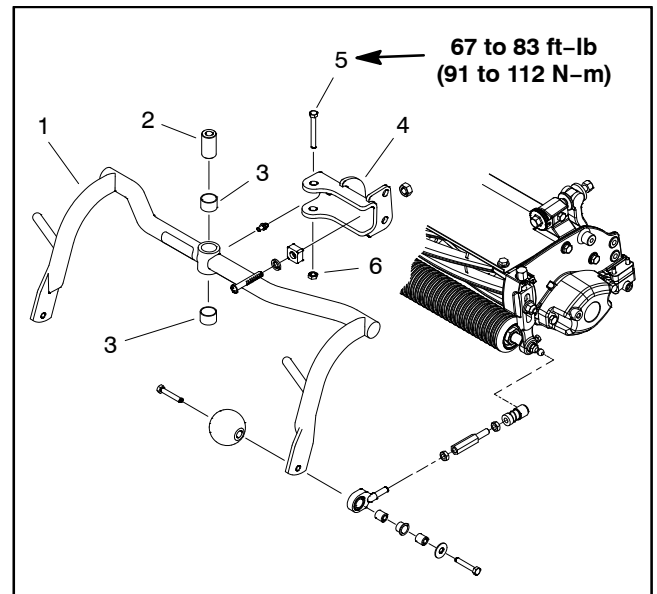

Figure 14
B. If pull frame (item 1 in Fig. 14) was removed from clevis on lift frame, torque cap screw from **67 to 83 ft-lb (91 to 112 N-m)**.